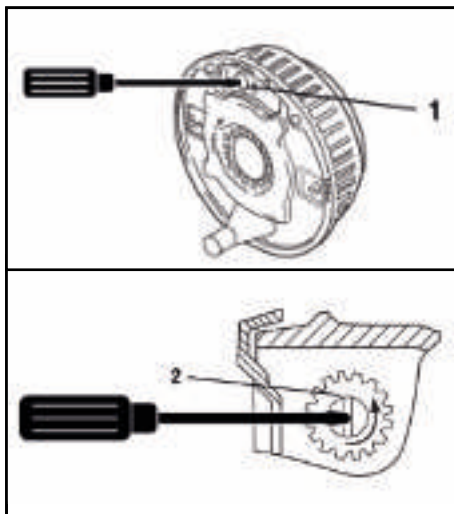

FIG 8.
2. Release the handbrake to the fully off position. If the handbrake will not go down the whole way because of the fairing or any other obstruction then the fairing must be cut away and/or the obstruction removed to achieve this desired position. It will not be possible to set up the braking system properly when the handbrake is not in the fully off position (fig. 8).
4. Remove the inner plastic bung from the back plate to expose the "star-wheel" adjuster access (fig. 8).
5. Rotating the road wheel in the forward direction (never backwards), adjust the star-wheel with a suitable screwdriver in the direction of the arrow embossed on the back plate until there is resistance in the wheel rotation (fig. 8).
6. Slacken off the star-wheel adjuster until the road wheel turns freely in the forward direction (fig. 8).
11. Remove the slack in the brake rod by adjusting the long ball nut to the rear of the balance bar, ensuring the overrun lever makes contact with the end of the towing shaft. Over-adjustment to the long ball nut (Fig.10) could induce movement of the inner brake cable, reducing the effective clearance of the brake shoes. If the overrun lever will not make contact, it is possible the two lock nuts, forward of the spring cylinder, are incorrectly adjusted. Loosen the nuts and adjust the brake rod as above (Fig. 8).